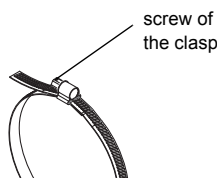

Fig. 9.21: Tension strap with band clamp clasp
- Place the tension strap around the pipe and insert it into the clasp (see Fig. 9.21).